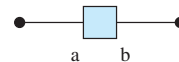

FIGURE P2.13 Image for Problem 2.13.
- 2.13 (B) The voltage across the device in Figure P2.13 is 1 V. What is the voltage polarity of Nodes a and b if the potential energy is reduced when a positive charge moves from a to b.